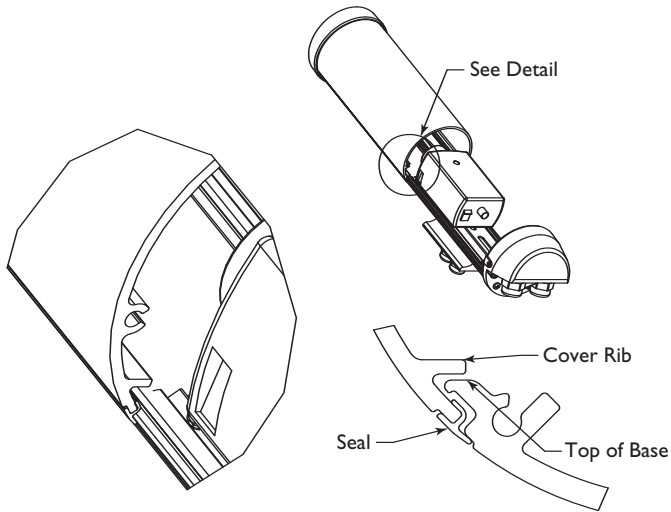

Figure 11: Reinstalling the Cover
2. Reinstall the cover. Align the bottom of the cover ribs with the top of the base. Slide the cover onto the base. Make sure the seal is not folded over or torn. Use silicone grease to lubricate the seals if necessary. See Figure 11.